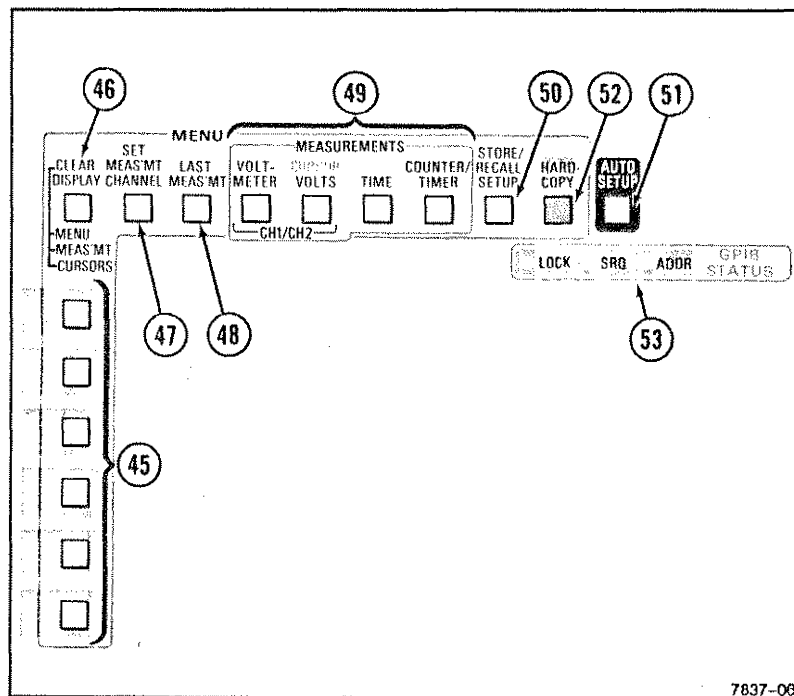

Figure 2-7. Menu controls.
Refer to Figure 2-7 for location of items 45 through 51.
- ④⑮ **Menu Item Select Buttons**—Select items from the list displayed on the right side of a displayed menu. A Menu Item Select button that has no corresponding menu item does nothing when pressed. The menu display will clear when the item is selected (unless the SERVICE mode CONFIGURE menu is set for: KEEP MENU ON WHEN ITEM SELECTED? YES). The factory settings default is NO.